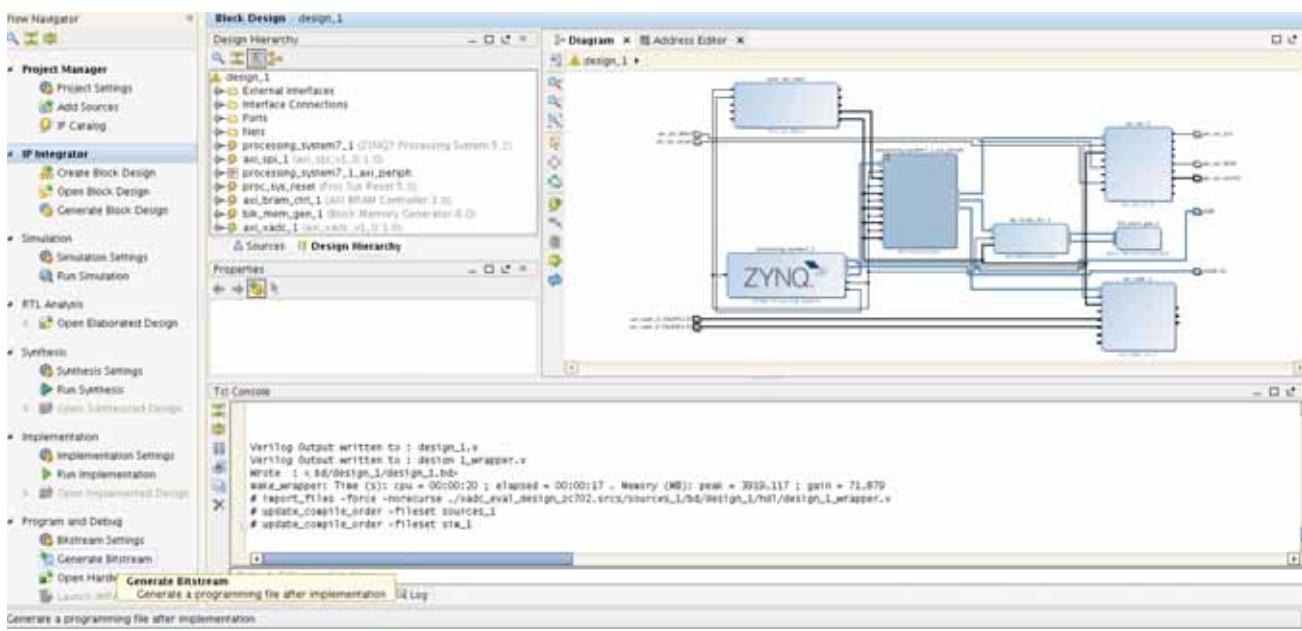

Figure 2-18: Generating Bitstream
- Click **Generate Bitstream** to implement the design as shown in Figure 2-18.